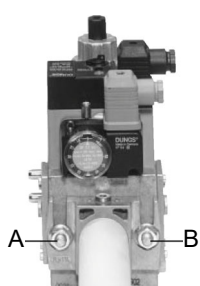
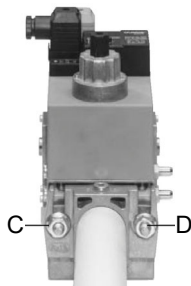
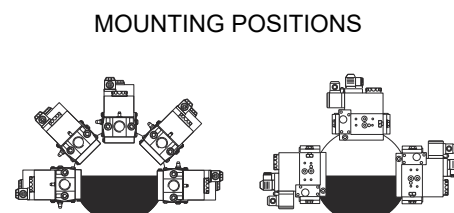

Fig. 1
Fig. 2
Fig. 4
- two (2) gas flanges are required; they may be threaded or not depending on size;
**ATTENTION:** once the gas train is mounted according to the diagram on Fig. 1, the gas proving test must be performed, according to the procedure set by the laws in force.
- 3 Tighten screws A, B, C and D (Fig. 1 - Fig. 2) according to the mounting positions (Fig. 4)